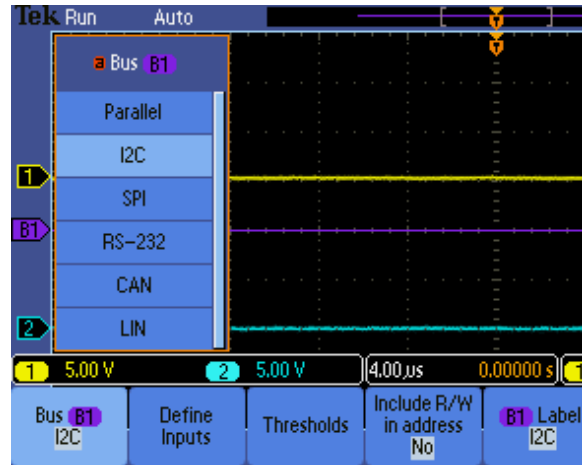

Figure 8: Tek bus configuration
8. The label for the left softkey shows the current setting for the bus. If it doesn’t say “Bus B1 I2C”, press the softkey below the label to bring up a vertical menu for selecting the bus type (Fig. 8). Using the “Multipurpose @” knob in the top left part of the controls, select the “I2C” setting for bus B1.